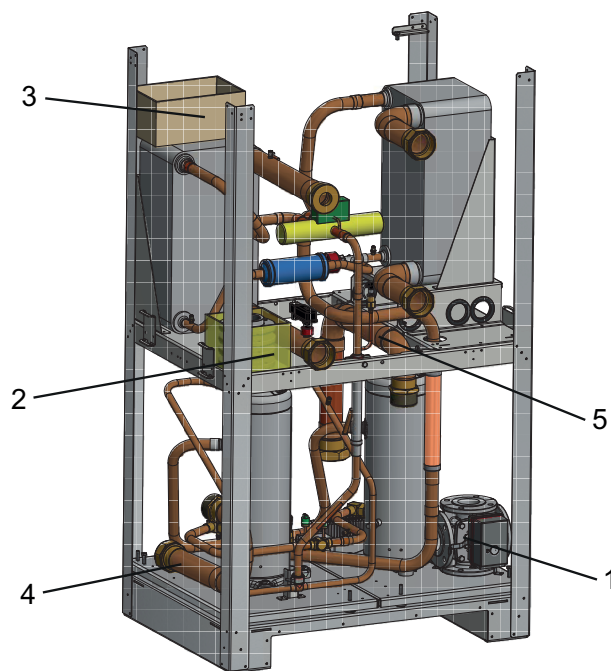
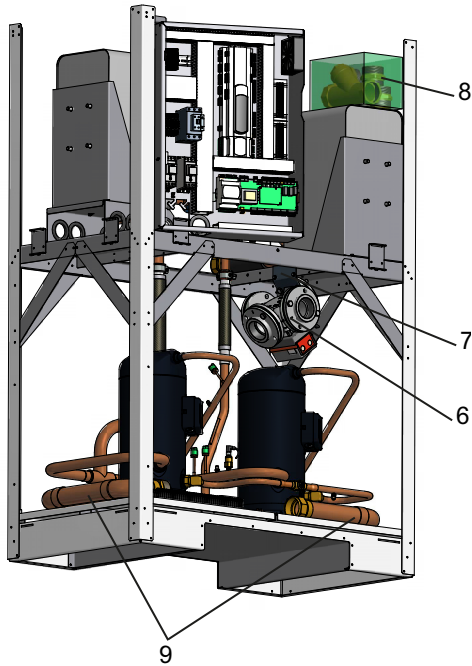
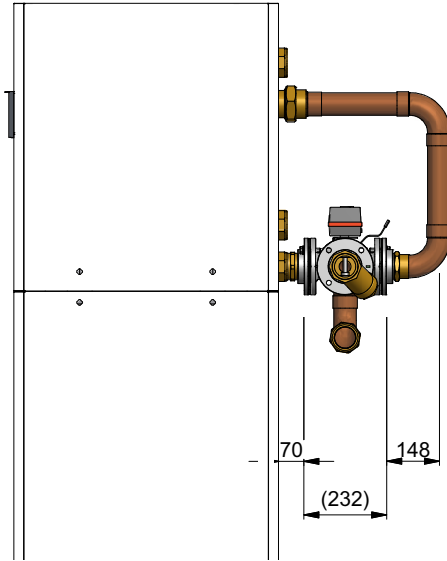

Fig. 7.1:
Fig. 7.2:
Fig. 7.3:
The hydraulic 4-way reversing valve (1) preassembled with the actuator is secured on the baseplate with 3 mounting brackets. The mounting brackets must be removed and the flange gasket placed under the 4-way reversing valve must be used (see Fig. 7.1 on page 6.). Additional flange gaskets are located together with the threaded flanges in the accessories kit (2). The connections elements are placed, together with the protective filter in the accessory box (3), on the plate heat exchanger. A preassembled pipe assembly (4) is placed on the baseplate and an additional pipe assembly (5) is secured in the upper section on the sheet metal part. These pipe assemblies must be connected with the threaded flanges as shown in Fig. 7.3 on page 7.
The hydraulic 4-way reversing valve (6) preassembled with the actuator is fixed on a transport plate (7) inside the unit with its threaded flanges (see Fig. 7.2 on page 7). After dismantling the hydraulic 4-way reversing valve from the device compartment, the transport plate (7) must be removed. The threaded flanges of the 4-way reversing valve must be loosened. The connections elements and the flange gaskets are placed, together with the protective filter in the accessory box (8), on the plate heat exchanger. Two preassembled pipe assemblies (9) are placed on the baseplate of the heat pump. These pipe assemblies must be connected with the threaded flanges as shown in Fig. 7.3 on page 7.
The clearances shown in Fig. 7.3 on page 7 must be achieved with the sealing process between the double nipple and threaded flange on the heat pump on the one hand, and between the "heating water flow" pipe assembly and threaded flange on the other. When the required installation position is achieved, the flanges with the accompanying seals must be connected with the hydraulic 4-way reversing valve using screws, washers and spring washers.